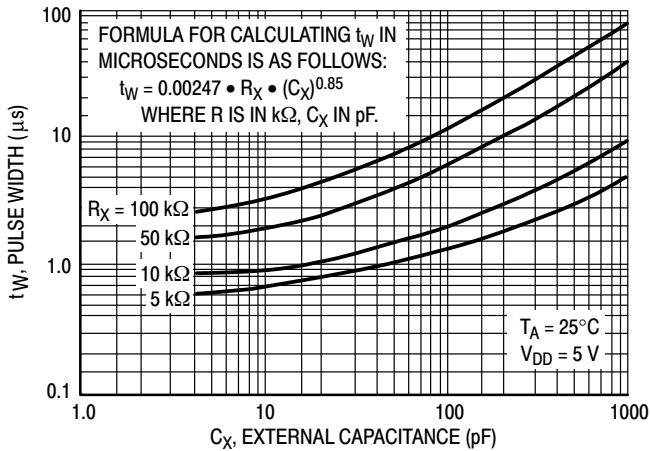

Figure 4. Typical  $C_X$  versus Pulse Width @  $V_{DD} = 5.0 V$
**MONO–IN (Pin 15)** – Used as the timing pin for the on–chip monostable multivibrator. If the Mono–In input is connected to VSS, the monostable circuit is disabled, and Decode Out is directly connected to the selected Q output. The monostable circuit is enabled if a resistor is connected between Mono–In and VDD. This resistor and the device’s internal capacitance will determine the minimum output pulse widths. With the addition of an external capacitor to VSS, the pulse width range may be extended. For reliable operation the resistor value should be limited to the range of 5 kΩ to 100 kΩ and the capacitor value should be limited to a maximum of 1000 pf. (See figures 4, 5, 6, and 11).